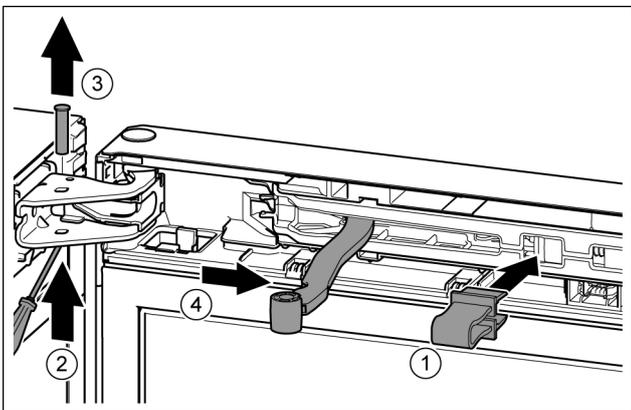

Fig. 10
- ▶ Engage the locking device in the opening. Fig. 10 (1)
- ▶ Unscrew the bolt with a screwdriver. Fig. 10 (2)
- ▶ Remove the bolt in an upward direction. Fig. 10 (3)
- ▶ Turn the hinge in the direction of the door. Fig. 10 (4)